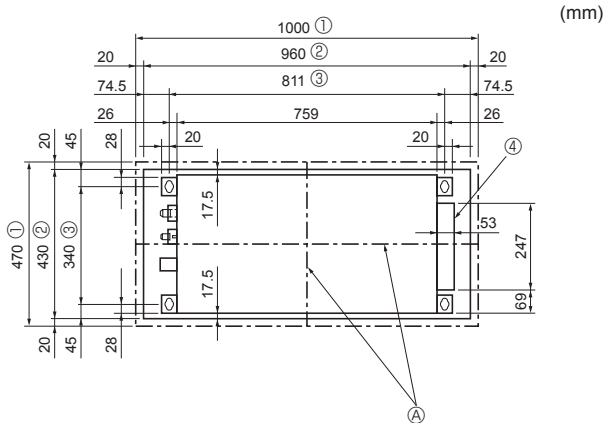

Fig. 2-3
2.3. Ceiling openings and suspension bolt installation locations (Fig. 2-3)